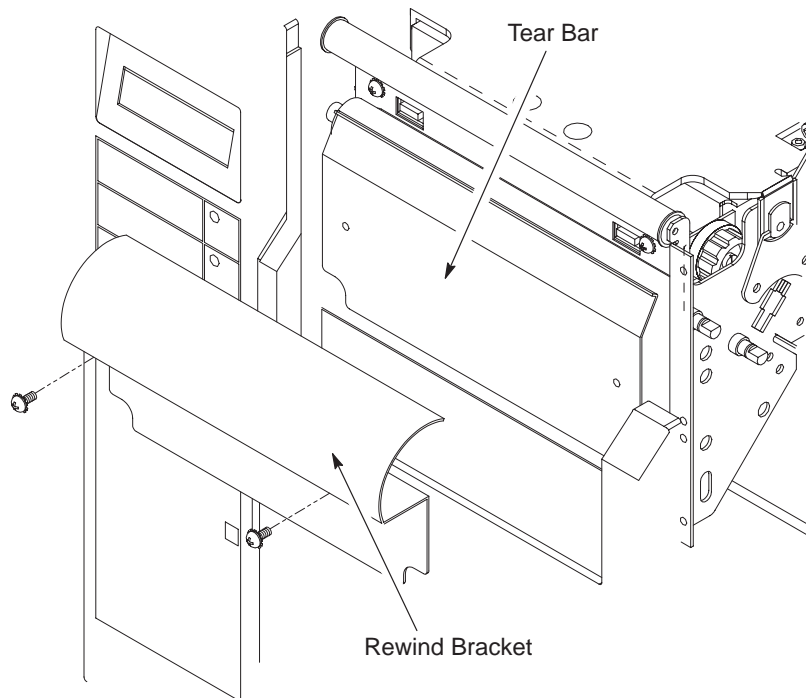

Figure 2–9. Rewind Bracket Installation
4. Loosen the thumbscrew, and remove the media retainer from the rewind shaft as shown in Figure 2–10.